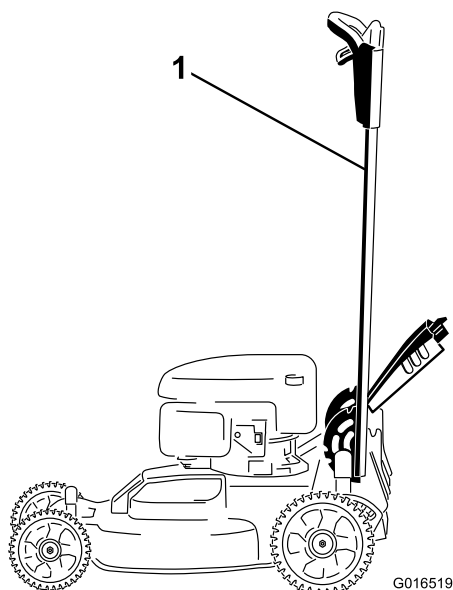

Figure 1
1. Lock the handle in the vertical position (Figure 1); refer to Adjusting the Handle Height in the *Operator's Manual*.